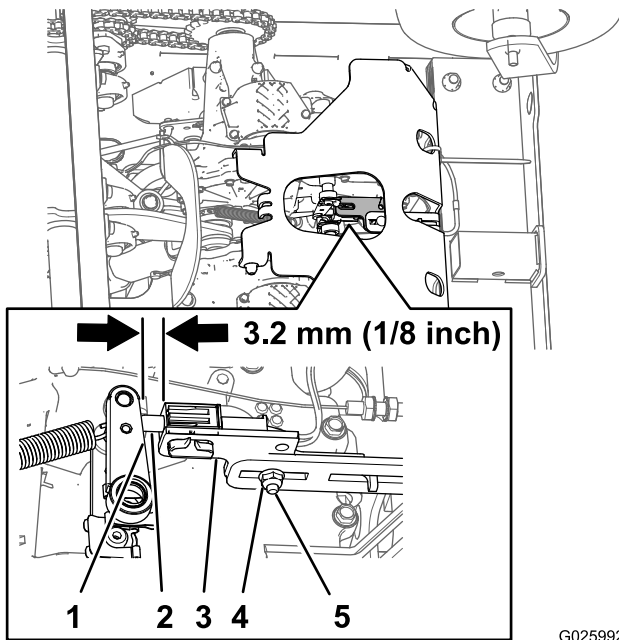

Figure 49
5. Check the distance between the parking brake-switch bracket to the brake arm of the transmission (Figure 49).
- A. Loosen the locknut and carriage bolt securing the parking brake switch bracket (Figure 49).
- B. Adjust the position of the brake-switch bracket until the gap (Figure 49) between the switch bracket and the brake arm is 3.2 mm (1/8 inch)
- C. Tighten the locknut and carriage bolt (Figure 49) securing the brake-switch bracket to 1017 to 1243 N·cm (90 to 110 in·lb).